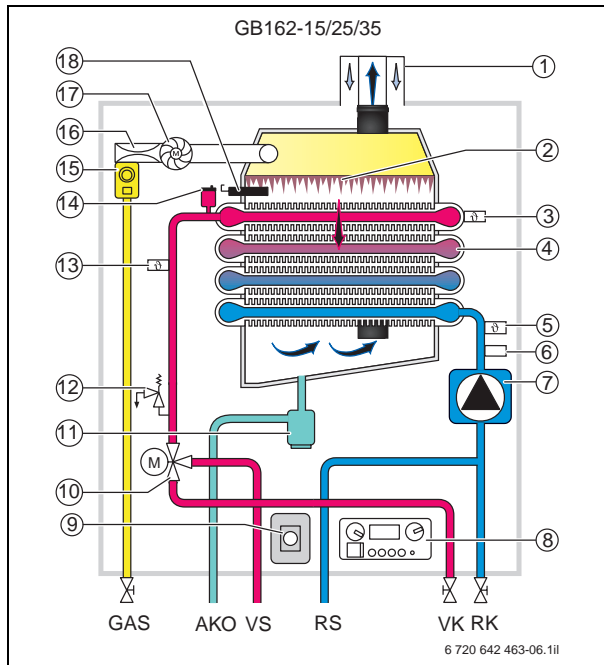
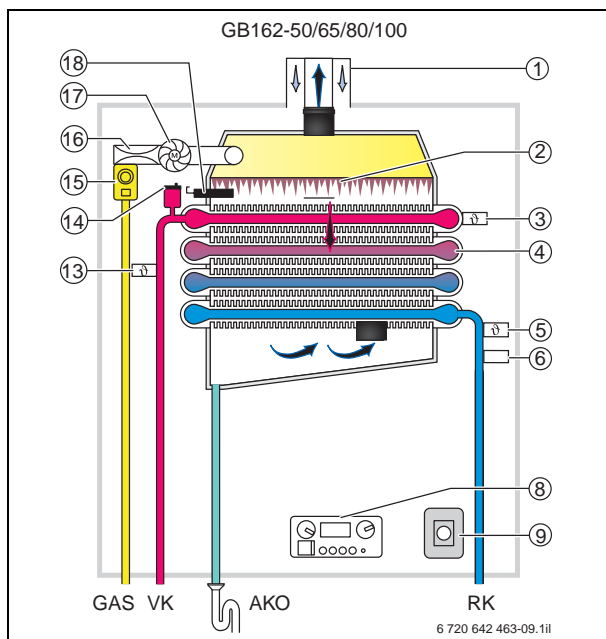

Fig. 6 Function scheme Logamax plus GB162-15/25/35 (key → page 14)
Fig. 9 Function scheme Logamax plus GB162-50/65/80/100
#### Key to fig. 6 to fig. 9:
Part of the ETA-plus system is a highly effective lamellar tube heat exchanger with ALUplus technology. It features an extremely large surface area enabling optimum heat transfer (→ fig. 6 to fig. 9, pos. 4).
In addition, the Logamax plus GB162 gas condensing boilers are equipped with a fully pre-mixing ceramic linear radiant burner that modulates its output between 17 % and 100 %. It is fitted as a downdraught burner above the lamellar tubes (→ fig. 6 to fig. 9, pos. 2).
In contrast to conventional boilers with electric spark ignition or a pilot flame, the Logamax plus GB162 gas condensing boilers operate with an incandescent ignition electrode (→ fig. 6 to fig. 9, pos. 18).
Should the burner fail to ignite or the flame go out, the universal burner control unit UBA3.5 (→ fig. 6 to fig. 9, pos. 9) receives no flame signal from the ionisation 'electrode (→ fig. 6 to fig. 9, pos. 18). The UBA3.5 then immediately interrupts the gas supply to the gas valve, switches the burner off and issues a fault message.
The fan (→ fig. 6 to fig. 9, pos. 17) draws in the combustion air required for the combustion process. The positive combustion air pressure transports the flue gas created during combustion into the flue system.
For the Logamax plus GB162 gas condensing boilers, the KombiVENT gas:air unit comprises a fan, a gas valve and the venturi nozzle (→ fig. 6 to fig. 9, pos. 15 to pos. 17). It is mounted directly on the burner. Subject to the fan speed and the resulting air flow rate, a specific negative pressure is created inside the venturi nozzle. The required gas volume is metered through this negative pressure. The gas and combustion air are fully mixed inside the fan.